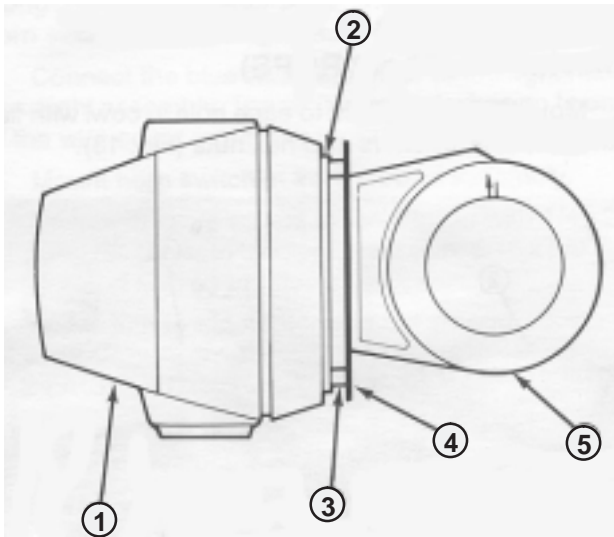

Figure 20
2. Place a flat piece of sheet metal, large enough to fit over the three glass protrusions on the face of the headlights, over the headlight (Fig. 20).
3. Mount a magnetic protractor onto the plate (Fig. 20). While holding the assembly in place, carefully tilt the headlight downward 3°, then tighten nut.